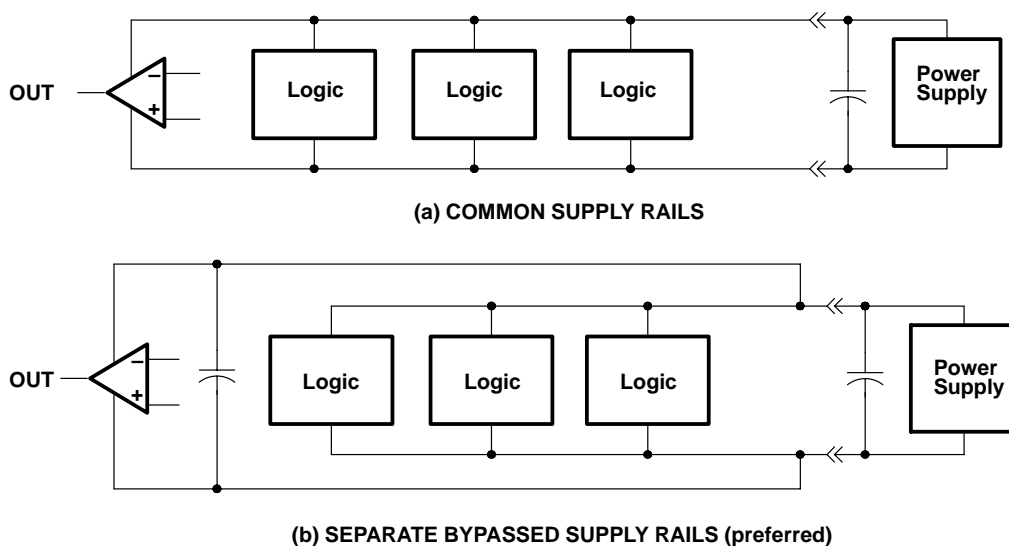

Figure 104. Common Versus Separate Supply Rails
1. Power the linear devices from separate bypassed supply lines (see Figure 104); otherwise, the linear device supply rails can fluctuate due to voltage drops caused by high switching currents in the digital logic.